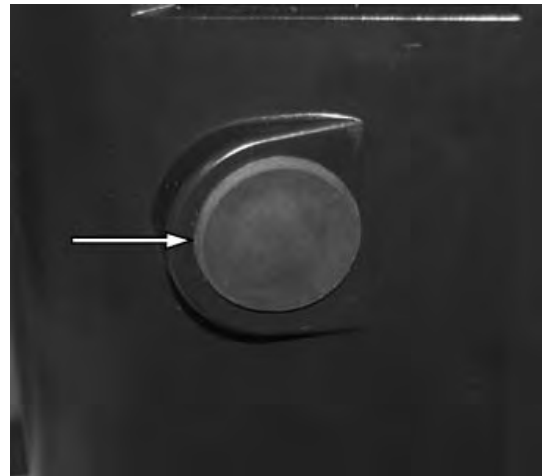

Figure 9.
2. See Figure 9. Remove the brush assembly cap seal.